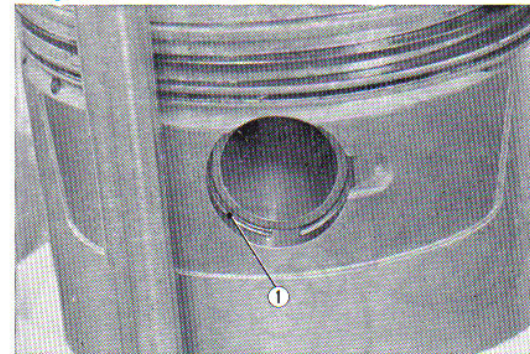

Fig. 3.70 Shift the cut portion of the clip from the cut portion of the clip groove
- b. Set the clip so that the opening is away from the groove cutout. (Fig. 3.70)